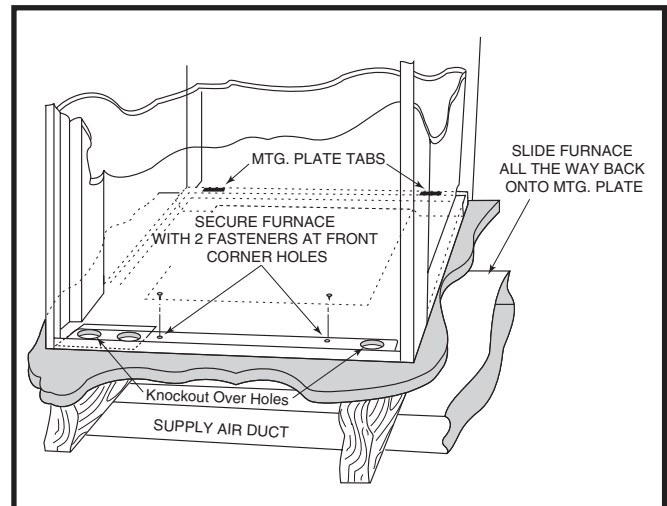
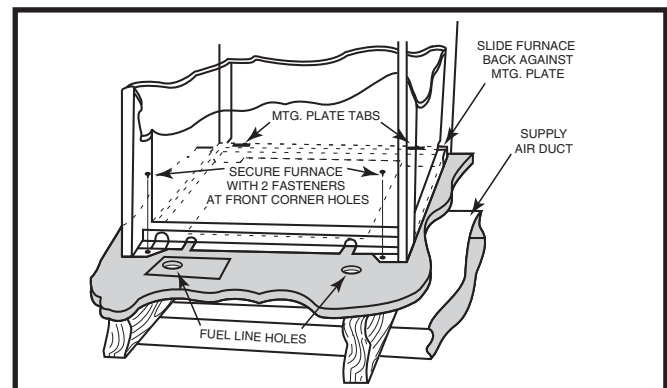

Figure 14. "A" & "B" Cabinet Furnaces
Figure 15. "A" Cabinet Furnace on Coil Cabinet
Sides and back of the furnace may be enclosed by wall framing such as in a closet or alcove. The dimensions of the room or alcove must be able to accommodate the overall size of the furnace shown in Figure 4 \(page 5\) and the installation clearances outlined on page 4. The furnace shall be appropriately connected to the supply distribution system as shown in Figure 14 \(page 8\) & Figure 15 \(page 8\).
- Secure front with one (1) fastener at each corner. See Figure 14 & Figure 15.